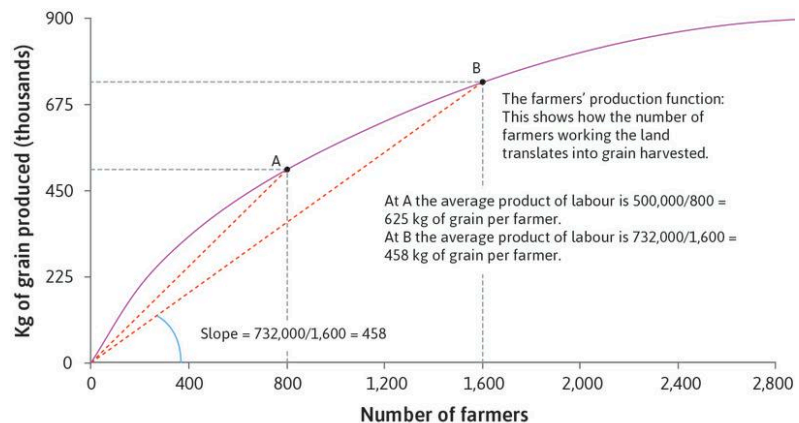

Figure 2.14b The farmers' production function: Diminishing average product of labour.
Figure 2.14a lists some values of labour input and the corresponding grain production. In the third column we have calculated the average product of labour. In Figure 2.14b, we draw the function, assuming that the relationship holds for all farmers and grain production amounts in between those shown in the table.
2. Does farming produce a surplus of calories—more calories in the output than used up in the work input—using the production function in Figure 2.14b?
Remember that the average product of labour is the grain output divided by the amount of labour input. From the production function in Figure 2.14b, or the table in Figure 2.14a (both show the same information) we see that an annual input of 800 farmers working the land brings an average per-farmer output of 625 kg of grain, while increasing the labour input to 1,600 farmers produces an average output per farmer of 458 kg. The average product of labour falls as more labour is expended on production. This worried Malthus.
Look again at Figure 2.14b (page 72) which depicts the production function of grain for farmers under average growing conditions with the currently available technology.